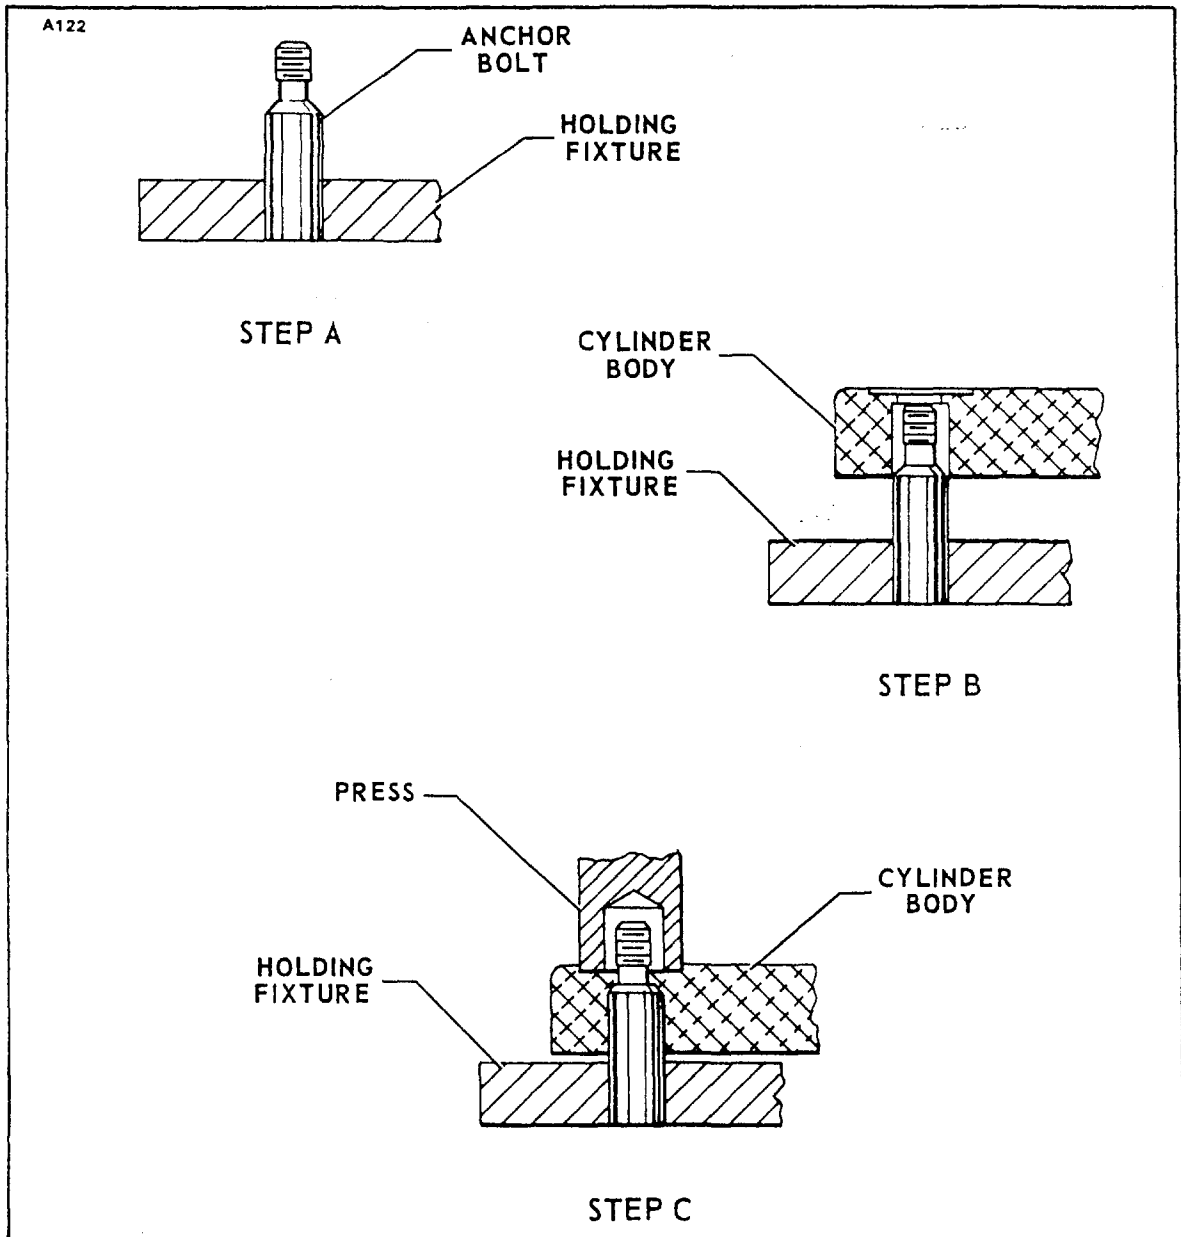

Figure 7-12. Installation of Anchor Bolt
1. Support Anchor Bolt in a holding fixture. (Refer to Figure 7-12, Step A.)
2. Align cylinder body over anchor bolt. (Refer to Figure 7-12, Step B.)
3. Use a suitable arbor press and apply pressure on the spot face directly over the anchor bolt hole. (Refer to Figure 7-12, Step C).